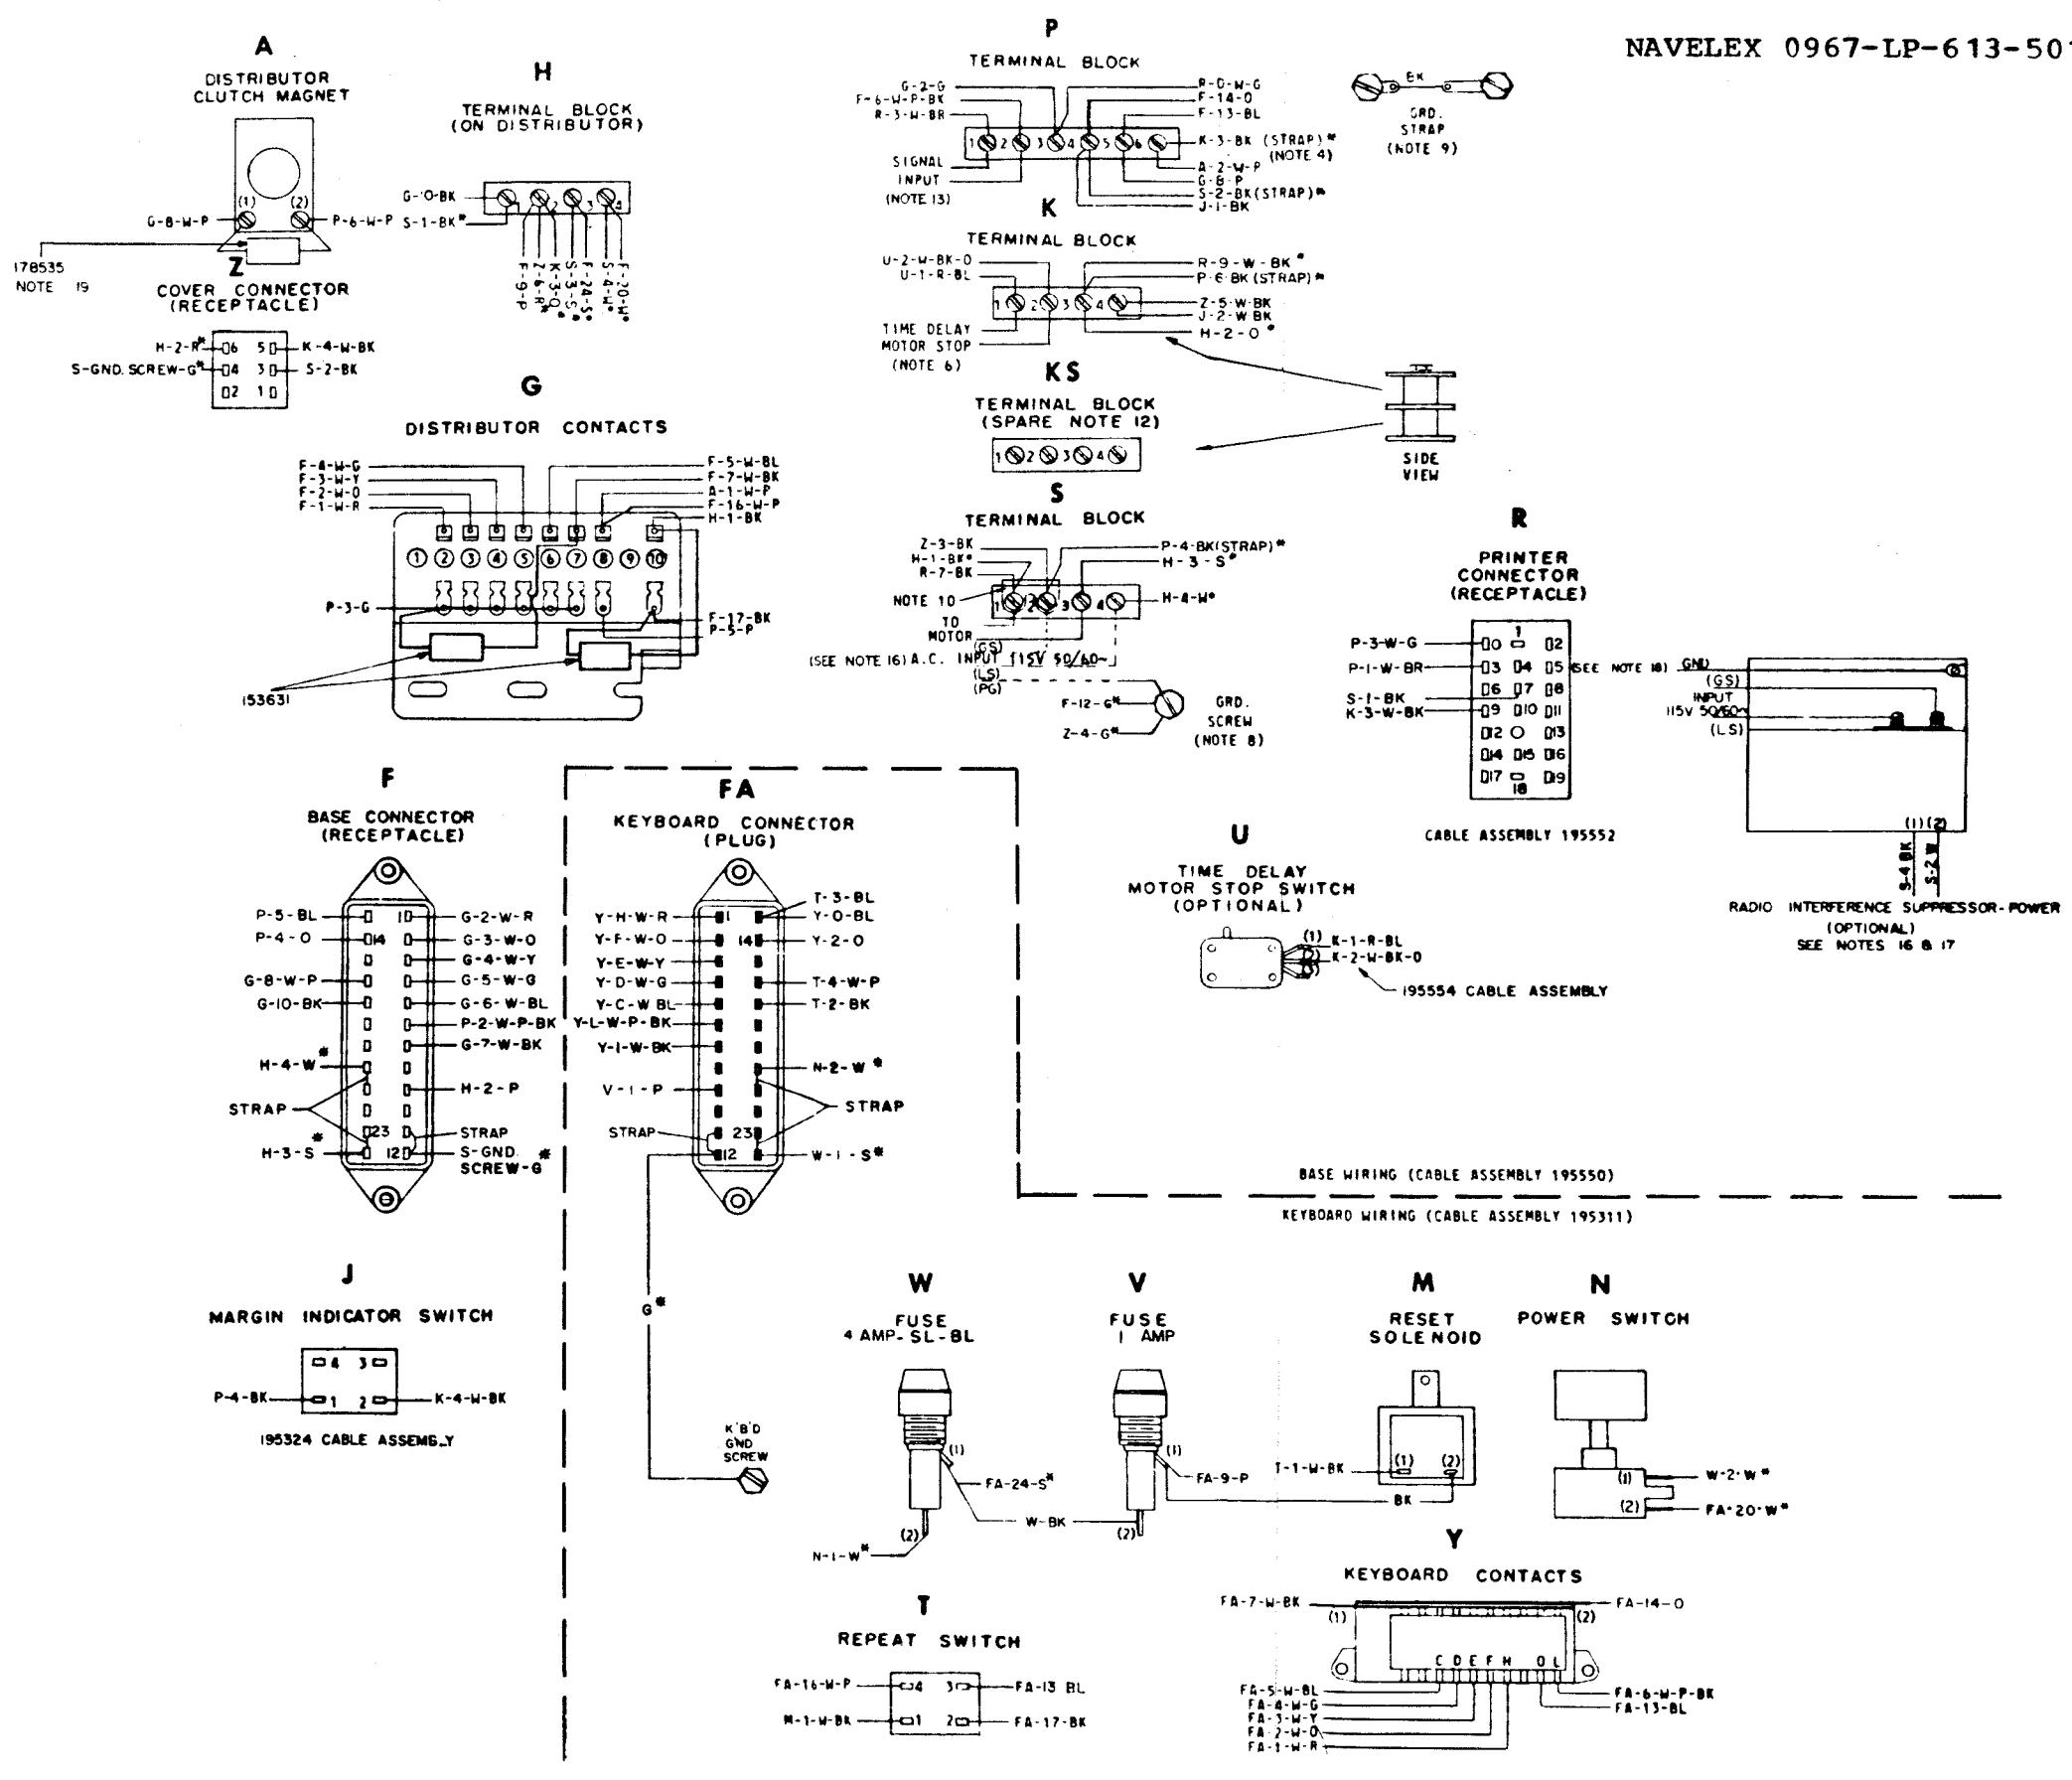

Figure 5-4. Wiring Diagram; Model 28 CPP KSR Keyboard Base LLK 2
3.	<p>ASSOCIATED WIRING DIAGRAM 5976W9 ACTUAL WIRING DIAGRAM LLK1 & LLK2 (FIGURE 5-4)</p>